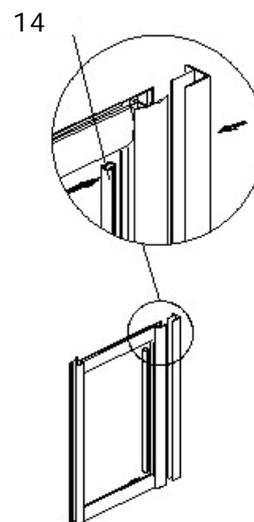

Figure 7
7. Put the pivot door wall profiles (6) in the pivoting side fixed profile (4), do not fix with screws yet. Press the vertical decorative strip (14) into the fixed profile of the pivoting side (4) as shown in figure 7.